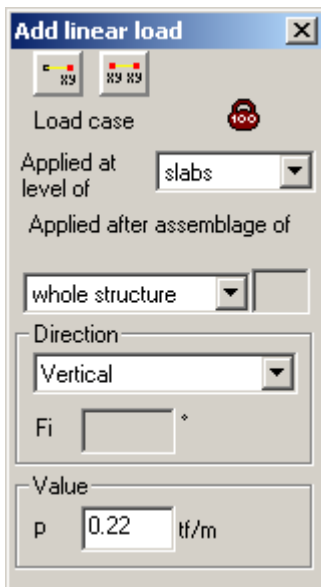

Figure 1.10.4 Add linear load dialog box
- ⇒ In the **Add linear load** dialog box (see Fig.1.10.4), define the following parameter: